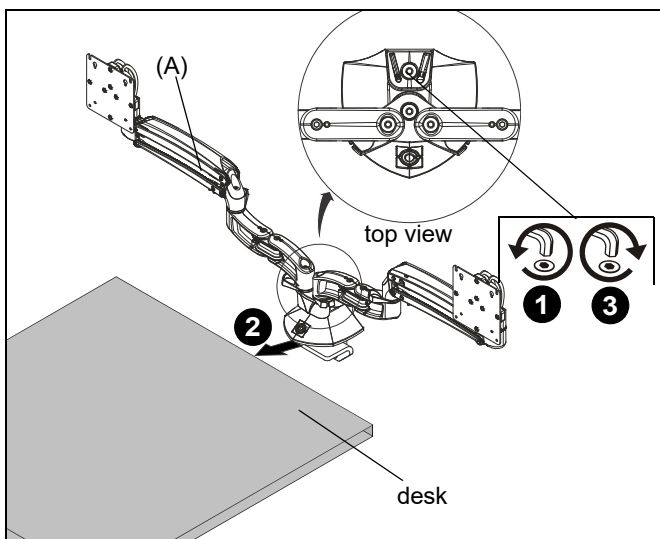

Figure 1
1. Loosen clamp screw until enough space is created between clamp and mount to allow for desk mounting. (See Figure 1)
2. Place mount (A) on top of desk at desired mounting location. (See Figure 1)
3. Tighten clamp using clamp screw until mount is securely fastened to desk. (See Figure 1)